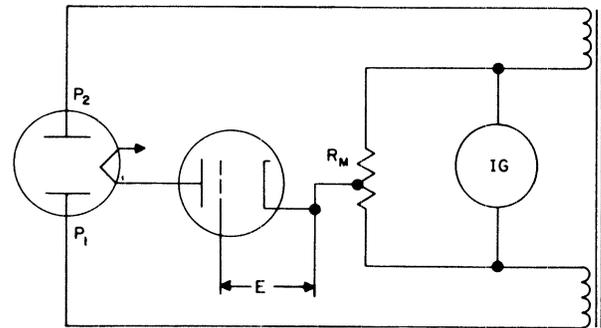

Figure 4-2. Basic Mutual Conductance Circuit Illustrating Theory
b. If the electron tube to be tested is substituted for the fixed load resistance and a fixed bias E is applied to the tube (figure 4-2), the meter will still read zero because the tube under steady-state conditions acts like a fixed resistance.